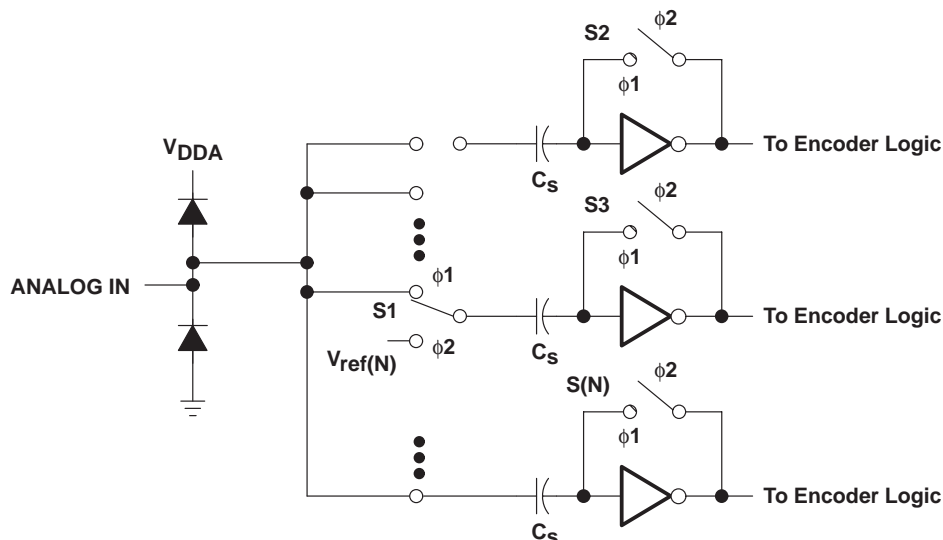

Figure 20. External Connections for Using the Internal Reference Resistor Divider
Figure 20 depicts the analog input for the TLV5510. The switches shown are controlled by two internal clocks, $\phi1$ and $\phi2$. These are nonoverlapping clocks that are generated from the CLK input. During the sampling period, $\phi1$, S1 is closed and the input signal is applied to one side of the sampling capacitor, C_s . Also during the sampling period, S2 through S(N) are closed. This sets the comparator input to approximately 2.5 V. The delta voltage is developed across C_s . During the comparison phase, $\phi2$, S1 is switched to the appropriate reference voltage for the bit value N, i.e., $V_{ref(N)}$. S2 is opened and $V_{ref(N)} - VC_s$ toggles the comparator output to the appropriate digital 1 or 0. The small resistance values for the switch, S1, and small value of the sampling capacitor combine to produce the wide analog input bandwidth of the TLV5510. The source impedance driving the analog input of the TLV5510 should be less than 100 Ω across the range of input frequency spectrum.